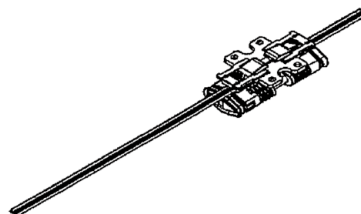

Fig. 2
- c. Put the seal belt through the piston assembly and assemble it to the cylinder tube as shown in Fig. 2 and 3.